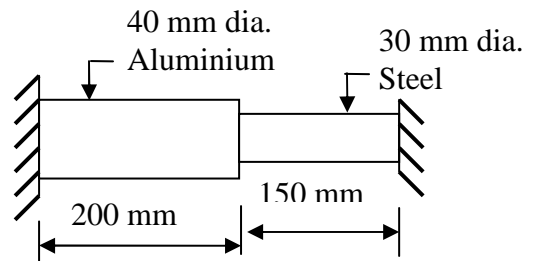

Fig.9 Q.5 (c)
- (c)** An assembly made up from Aluminium and Steel bars as shown in the fig.9, is initially stress free at temperature 32°C . The assembly is heated to bring its temperature to 82°C . Find the stresses developed in each bar. The coefficient of thermal expansions is $1.25 \times 10^{-5} / ^\circ \text{C}$ & $2.25 \times 10^{-5} / ^\circ \text{C}$ for steel and aluminium respectively. Take $E_s = 200 \text{ GPa}$ & $E_{al} = 75 \text{ GPa}$. **06**